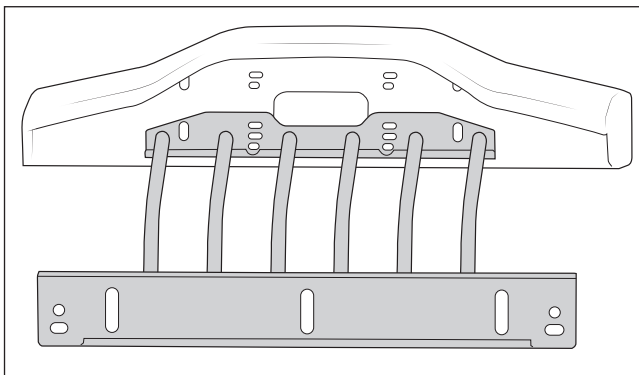

Figure 4
- A. For 2019+ trucks, the rearward hole on the bumper will be used (fig. 4).